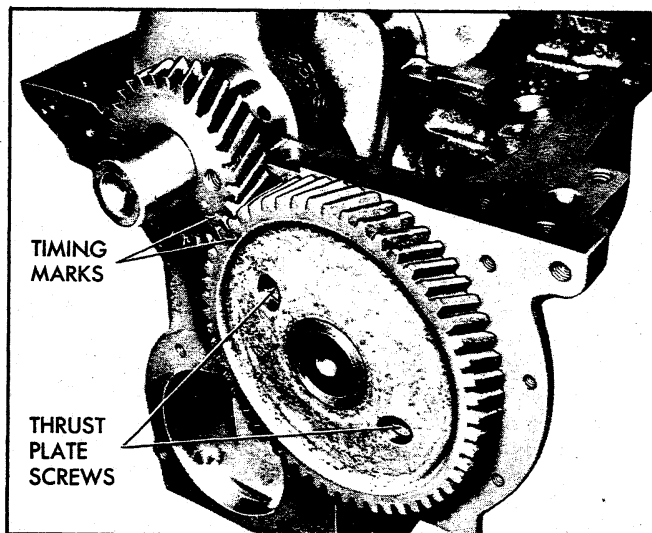

Fig. 15L - Timing Gear Marks
the camshaft gear (fig. 15L).
2. Turn crankshaft and camshaft so that the valve timing marks on the gear teeth will line up (fig. 15L). Push camshaft into position. Install camshaft thrust plate-to-block bolts and torque to specifications.